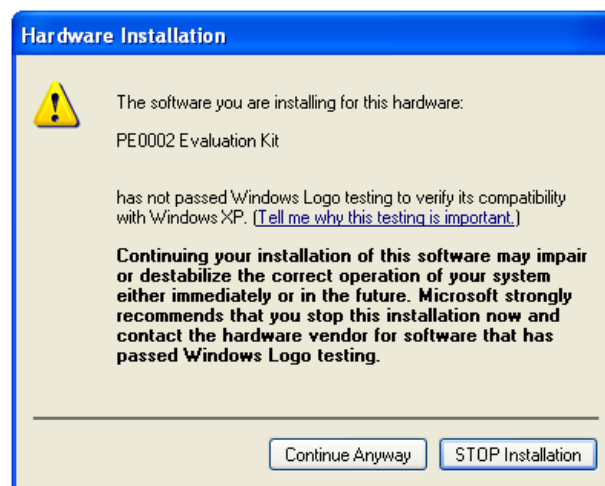

Figure 3 USB Driver Installation Message Box
- Install the USB driver when requested. The driver is in the same folder where the '**ES9700xx.zip**' files were extracted to, in directory '\Driver'. Follow instructions on the screen to install the USB driver. Click the 'Continue Anyway' button when the Message Box in Figure 3 is shown.